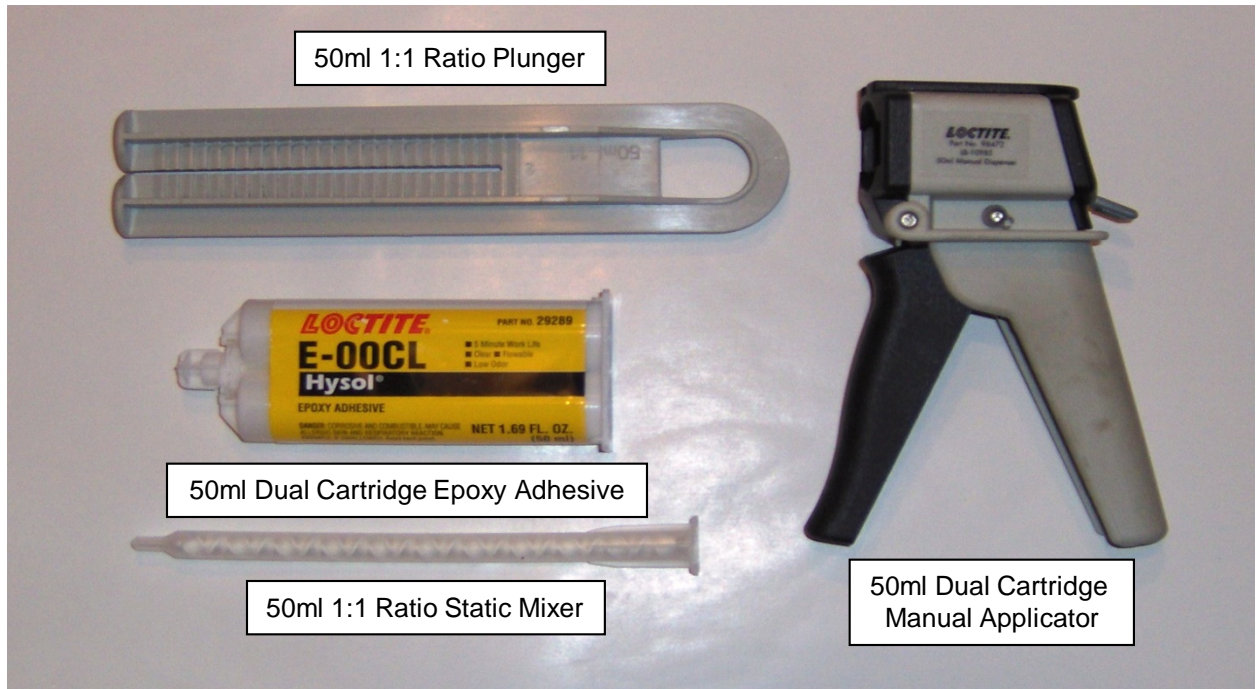

Figure 5a
4.18 Loctite E-00CL Hysol® 50ml Dual Cartridge Epoxy Adhesive / sealant (DEGBTC01). **See Fig. 5a.**
4.19 Loctite 50ml 1:1 Ratio Static Mixer (DEGBTC02). Static Mixer is a long nozzle that attaches to the Dual Cartridge. The Static Mixer is only good for limited applications / uses as the two-part epoxy hardens quickly inside the Mixer tube. **See Fig. 5a.**
4.20 Loctite 50ml Dual Cartridge Manual Applicator (DEGBTC03). Squeeze type applicator gun supplied with a 50ml 1:1 Ratio Plunger. **See Fig. 5a.**
5.3 **See Figs. 5a thru 5d** for the epoxy sealant applicator components.